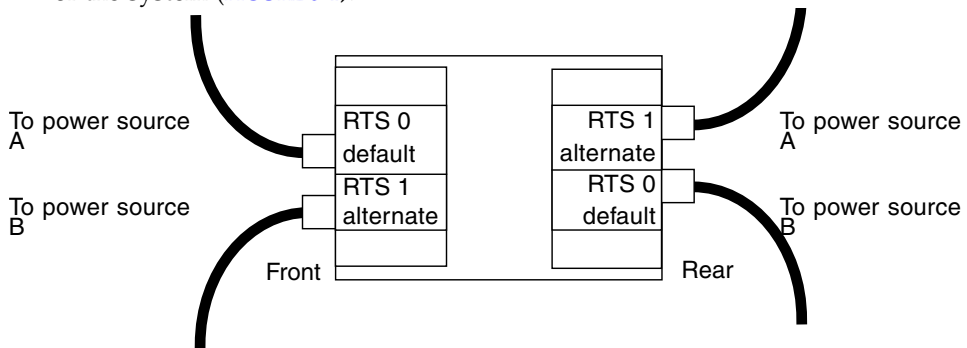

FIGURE 3-1 Two RTU Assemblies and Two Independent AC Power Sources
- In configurations with two RTU assemblies and two independent AC power sources there will be four cables to connect, two on the front, and two on the rear of the system (FIGURE 3-1).